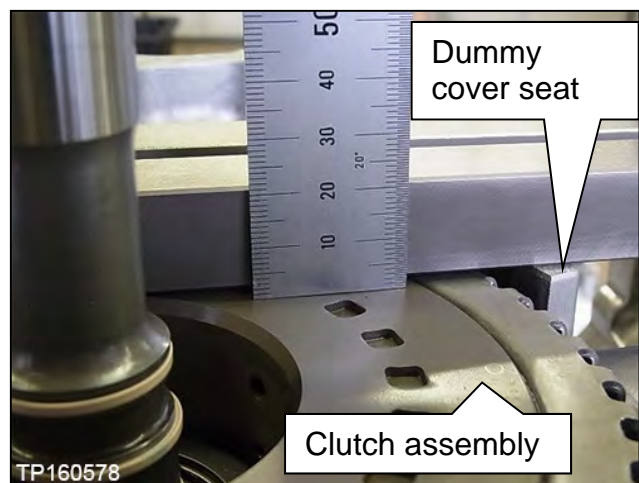

Figure 113
**HINT:** The clutch assembly should sit 2-3 mm lower than the dummy cover seat (Figure 113).